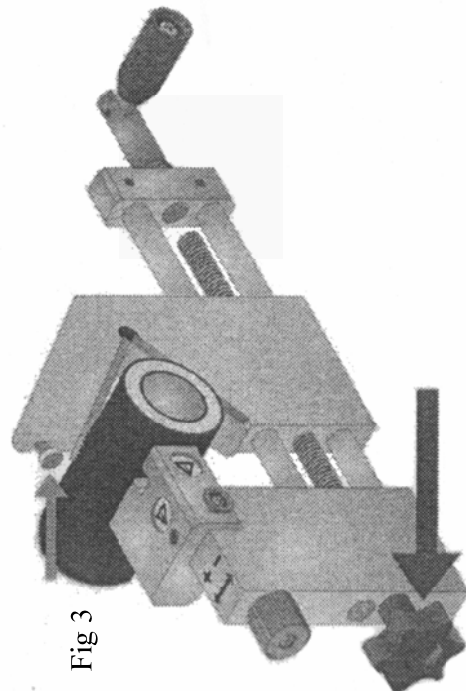

Fig 3
- 3.1.6 With the correct depth set, move the button marked by a blue arrow from the FRONT towards the SIDE position – the exact position of this button will depend upon the core diameter (larger sizes need a smaller button movement towards the side), as shown in Fig 3 of GR2D 6.28.3. Now rotate the whole tool using the rear handle – as the tool is rotated it will move progressively down the cable, peeling the screen. Do not apply excess pressure. The selected depth setting should produce a clean, smooth cut free of black semi-conducting material.
- 3.3 Slide the core through the hole in the braid and out the expanded end of the braid as I in Figure 3 of GR2D 6.29.2.